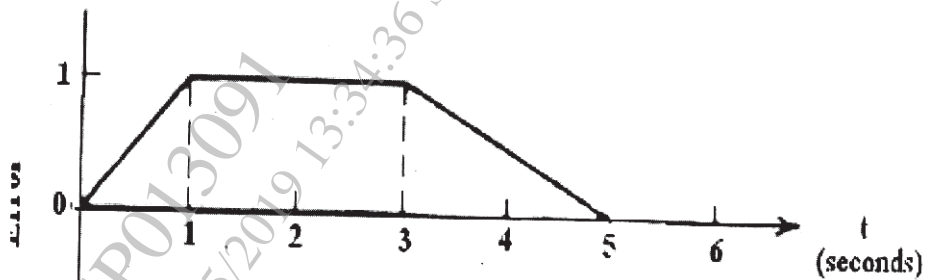

Figure 4
- Q9) a)** Figure 4 shows an error versus time graph. Sketch the PD controller (parallel form) output with respect to time. Assume $K_p = 10\%/s$, $K_D = 0.5\%/s$ and $P_0 = 20\%$. [10]